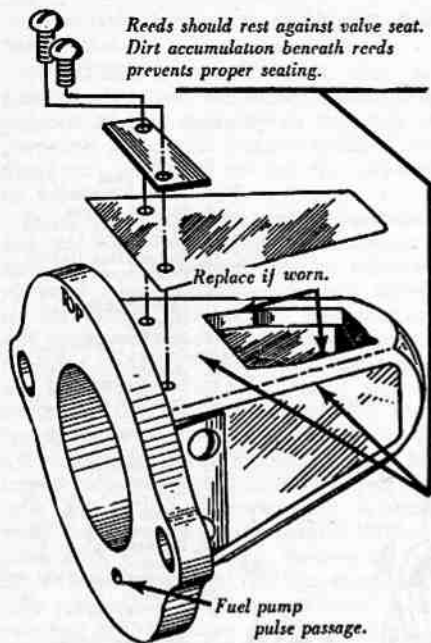

Fig. HL29—View showing reed valve assembly with one valve reed removed. Inspect seat and reeds as noted and be sure fuel pump pulse passage is open.
**REED INTAKE VALVE.** Engine is equipped with a pyramid reed valve assembly shown in Fig. HL21. The reed valve should be inspected whenever carburetor is removed. Refer to Fig. HL29 for inspection points. When installing new reeds on pyramid seat, thoroughly clean all threads and apply Loctite to threads on screws before installing. Be sure reeds are centered before tightening screws.